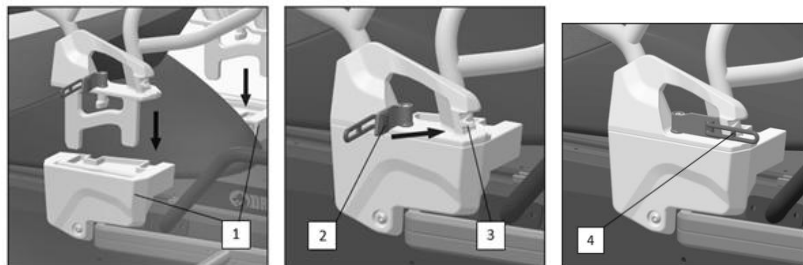

Fig. 26
2. Insert the seat back into two supports at the same time (posture 1, Figure 26);
3. Rotate the locking device 90 ° from left to right (posture 2, Figure 26);
4. Fix the locking device (Pos. 2, Figure 26) on the hook of the seat back base (Pos. 3, Figure 26), left side and right side with the rubber clip (Pos. 4, Figure 26);